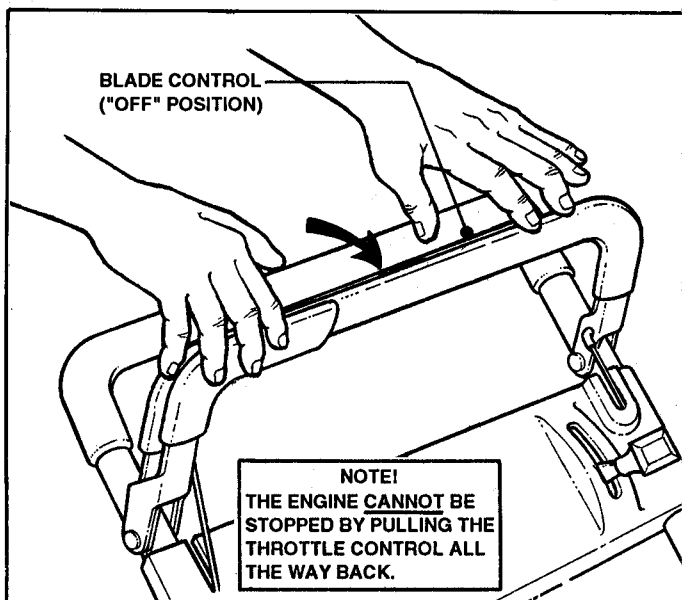

FIGURE 3
- **WHEEL DRIVE: STOP WHEEL DRIVE** by releasing **WHEEL DRIVE CONTROL**. Refer to Figure 3.
- **MOWER BLADE: STOP MOWER BLADE** by releasing the **BLADE CONTROL**. See Figure 3.